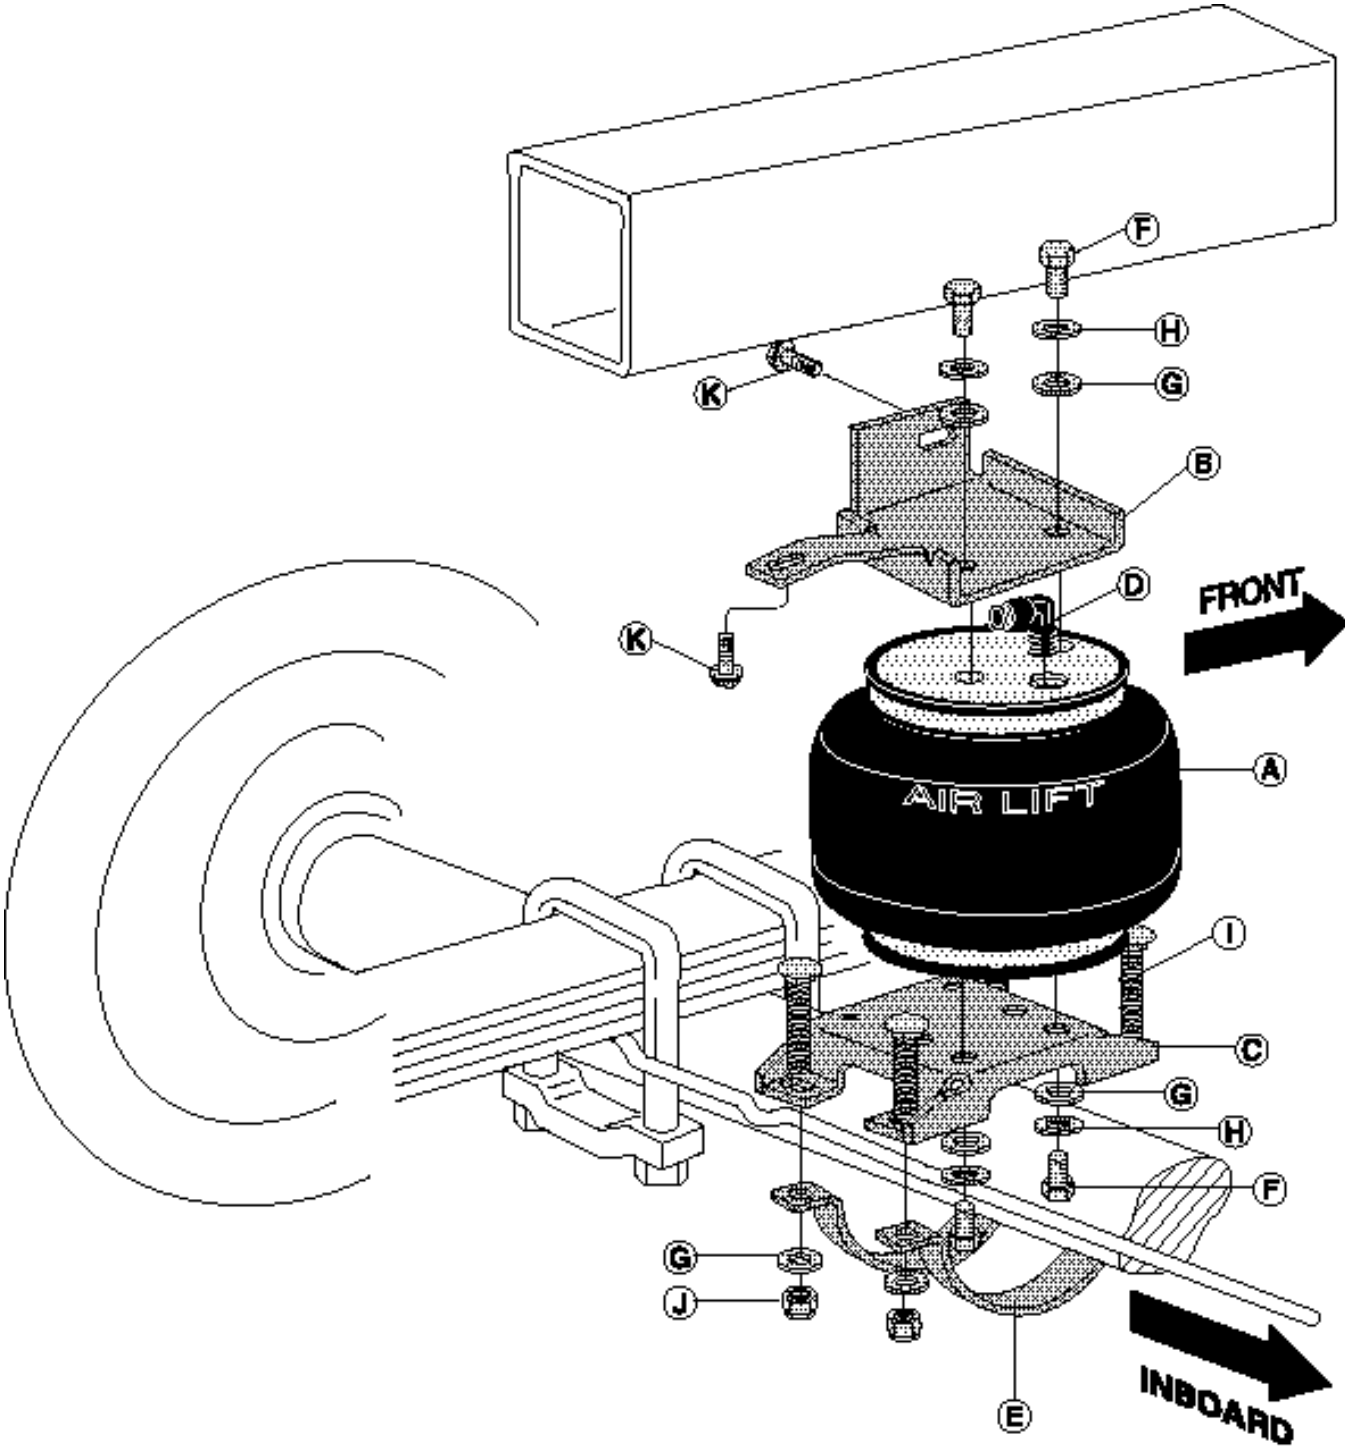

fig. 1
1. Install 90 degree air swivel fitting (D) to the top of the bellow. This fitting is precoated with sealant. Using an open-end wrench, tighten 1 and 1/2 turns (Figures 1 and 2).
2. Attach the upper bracket to the top plate (label end) of the bellows with two bolts (F), lock washers (H), and flat washers (G). Torque to 20 ft-lbs. Assemble both units (Figures 1 and 2) in this manner. There are left and right hand units (indicated by iLH or iRH stamped in the bracket).
7. Using the holes in the upper bracket as a template, drill two 5/16" holes into the frame. Insert and tighten the self tapping bolts (K) and torque to 15 ft-lbs. (Figures 1 and 7).